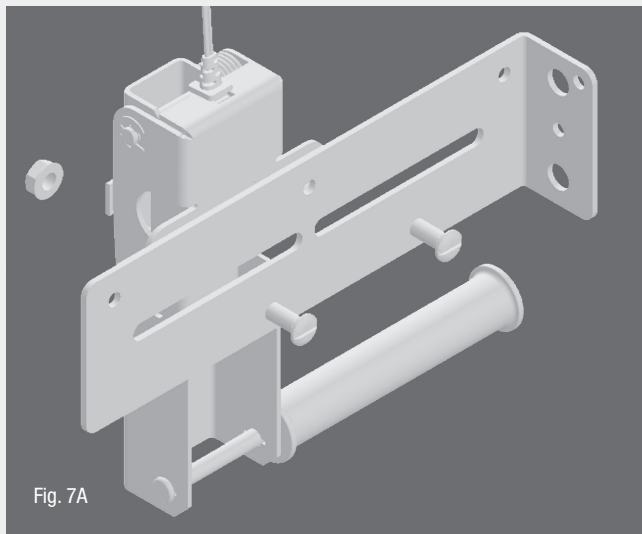

Fig. 7A
- If optional mounting bracket is used, insert 1/4" x 5/8" track bolts into slots and cable tension monitor holes as shown. See Fig. 7A. Loosely thread 1/4-20 nuts on each bolt – do not tighten down yet.
- Left hand assembly shown. See Fig. 7A.